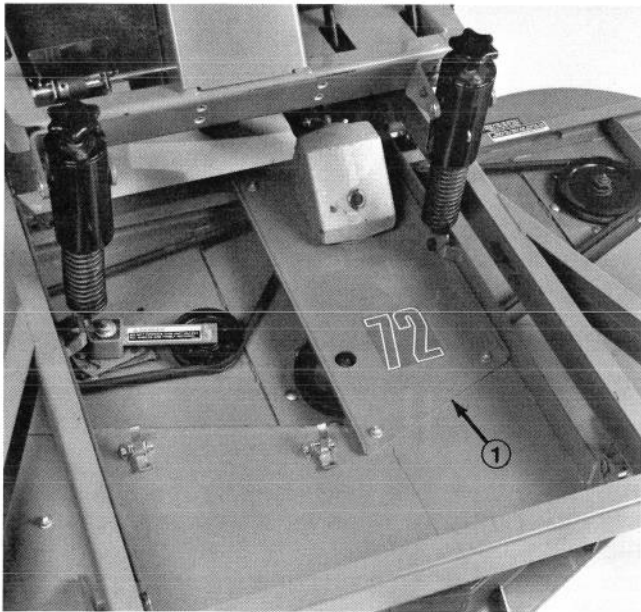

Figure 34
4. To install new belt, the gear box base must be removed. To do this, remove four carriage bolts, and locknuts holding gear box base (Fig. 34).
6. Install gear box base with carriage bolts and locknuts (Fig. 34).